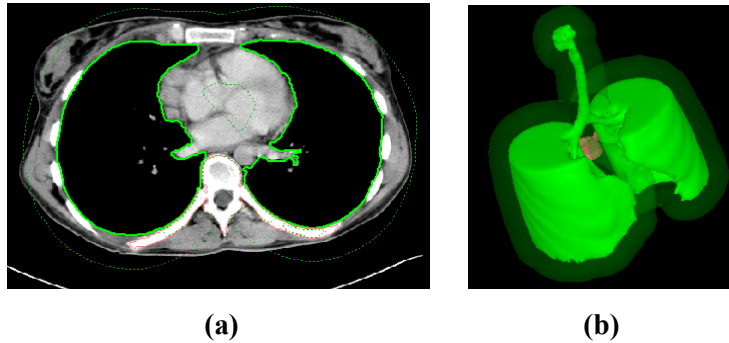

Figure 274 – Created ROI margin in 2D (a), in 3D (b)
6. Click the **Calculate** button. The created margin will be displayed as a dashed line (see Figure 274).